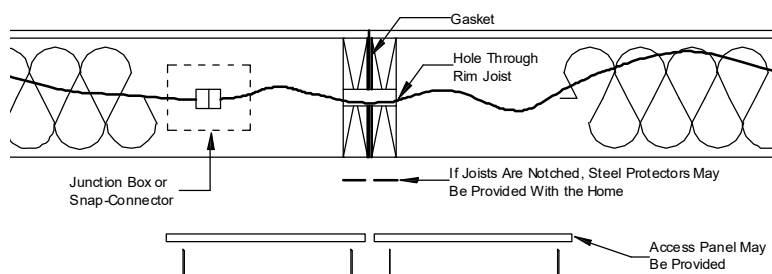

Figure 56. Electrical crossover floor wires with flush access panels
1. **Access wires.** Find the crossover location(s) and remove the access panel(s) if attached. If access panel openings are not provided, cut through bottom board to expose the wiring (**Figure 56**).